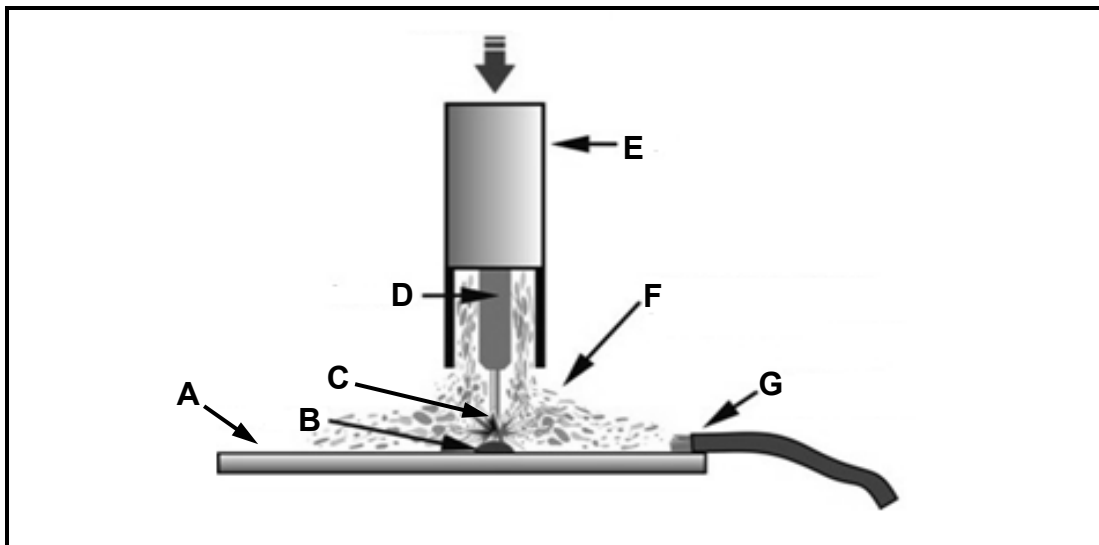

FIGURE 5.7
5.7 Identify the engineering equipment shown in FIGURE 5.7 below.